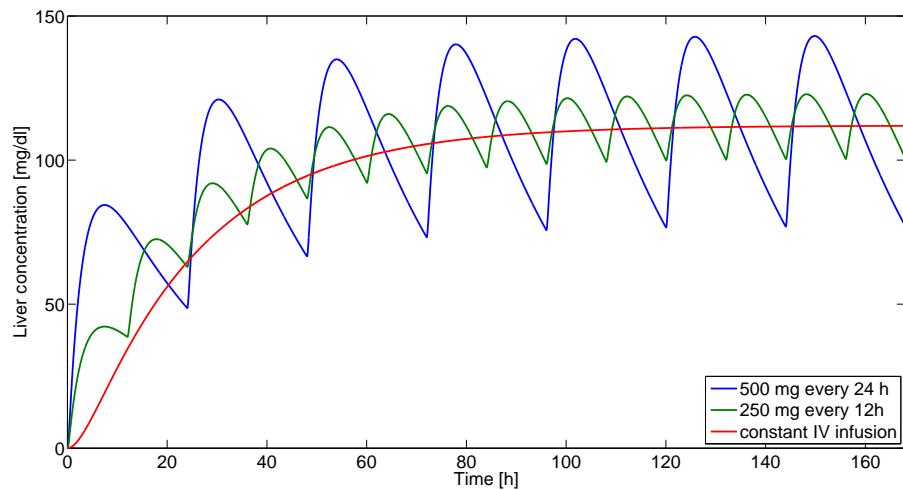

Figure 5.2 Liver concentration at different medication strategies
- d. Simulating the system with this oral prescription every 24 hours produces the blue curve in Fig. 5.2 below. The output oscillates heavily with a 24 hour period. An alternative medication strategy to reduce the oscillations and to keep the concentration more even could be to administer the drug in half the dose every 12 hours instead (green curve).
Simulations in Matlab (red curve) in Fig 5.2 below confirms that the constant intravenous injection eliminates the oscillations in liver concentration.